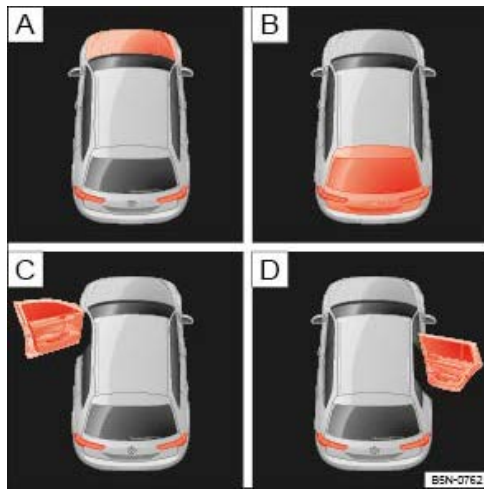

Fig. 51 On the instrument cluster display: bonnet open, boot lid open, front left door open, right rear door open.
- Open doors, bonnet and boot lid → Fig. 51
Key for → Fig. 51